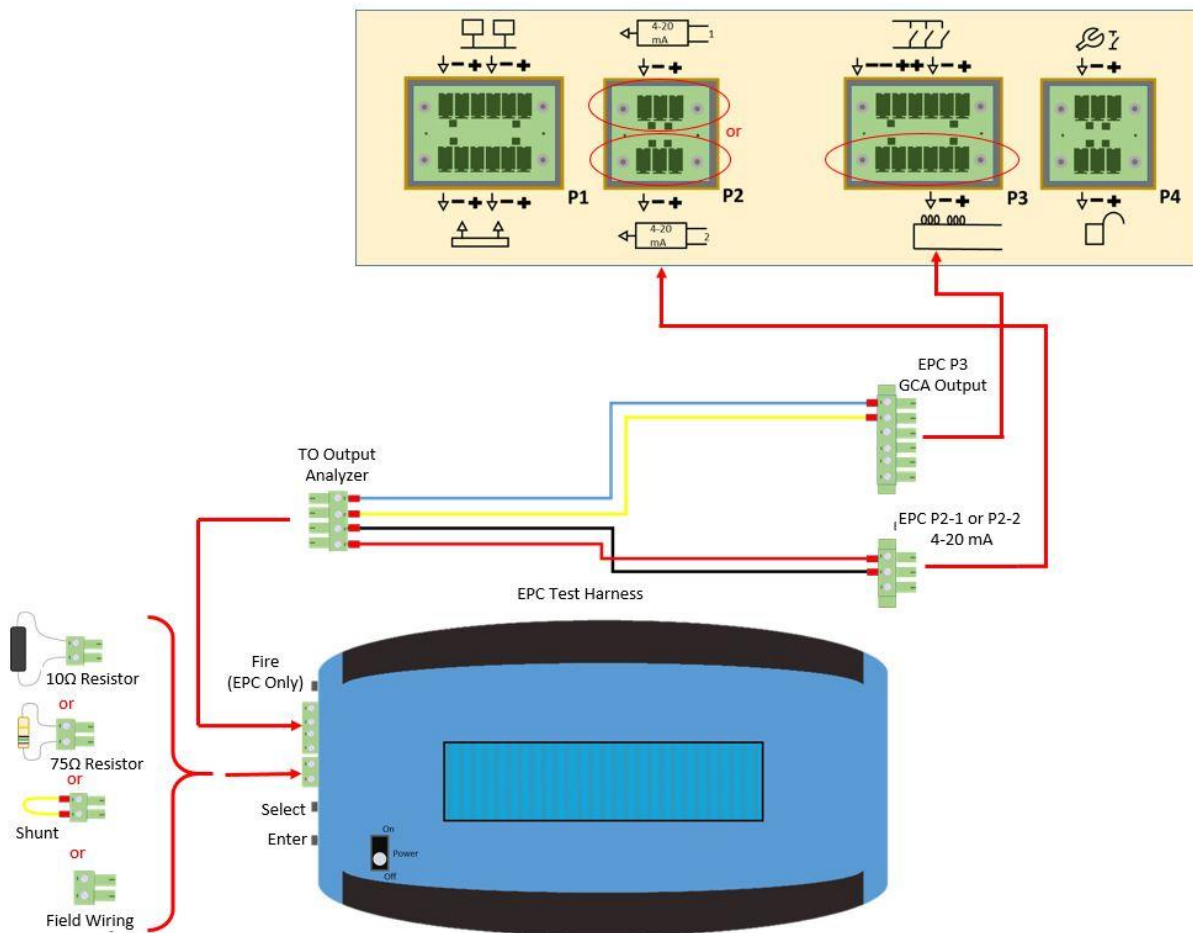

Figure 3 - EPC Series Firing Circuit Activation Current
4. Use the EPC Test Harness supplied with the Analyzer to connect it to the EPC's 4-20 mA detection circuits (P2-1 or P2-2) and series firing circuit (P3-2), as shown in Figure 3.
5. Connect the 0Ω shunt to the Analyzer jumper port, as shown in Figure 3.